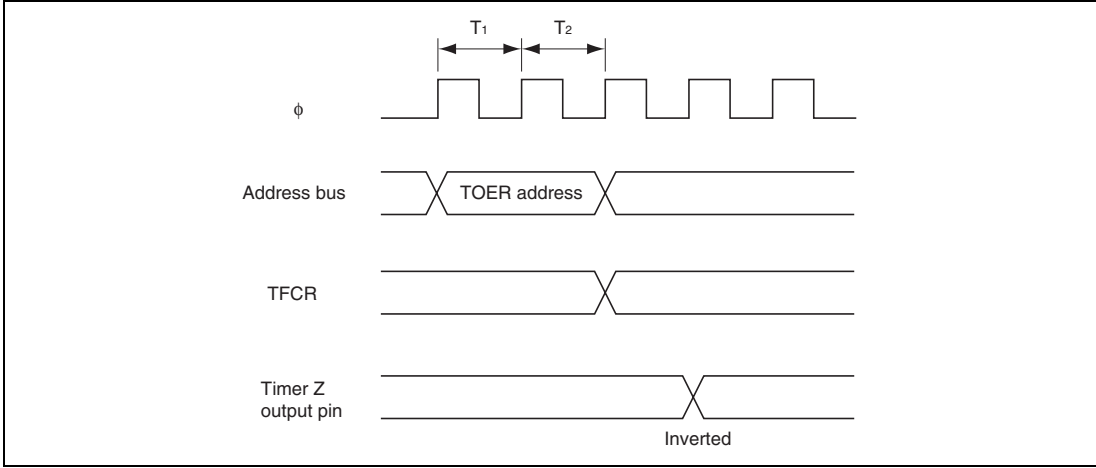

Figure 13.46 Example of Output Inverse Timing of Timer Z by Writing to TFCR
- 3. Output Inverse Timing by TFCR: The output level can be inverted by inverting the OLS1 and OLS0 bits in TFCR in reset synchronous PWM mode or complementary PWM mode. Figure 13.46 shows the timing.